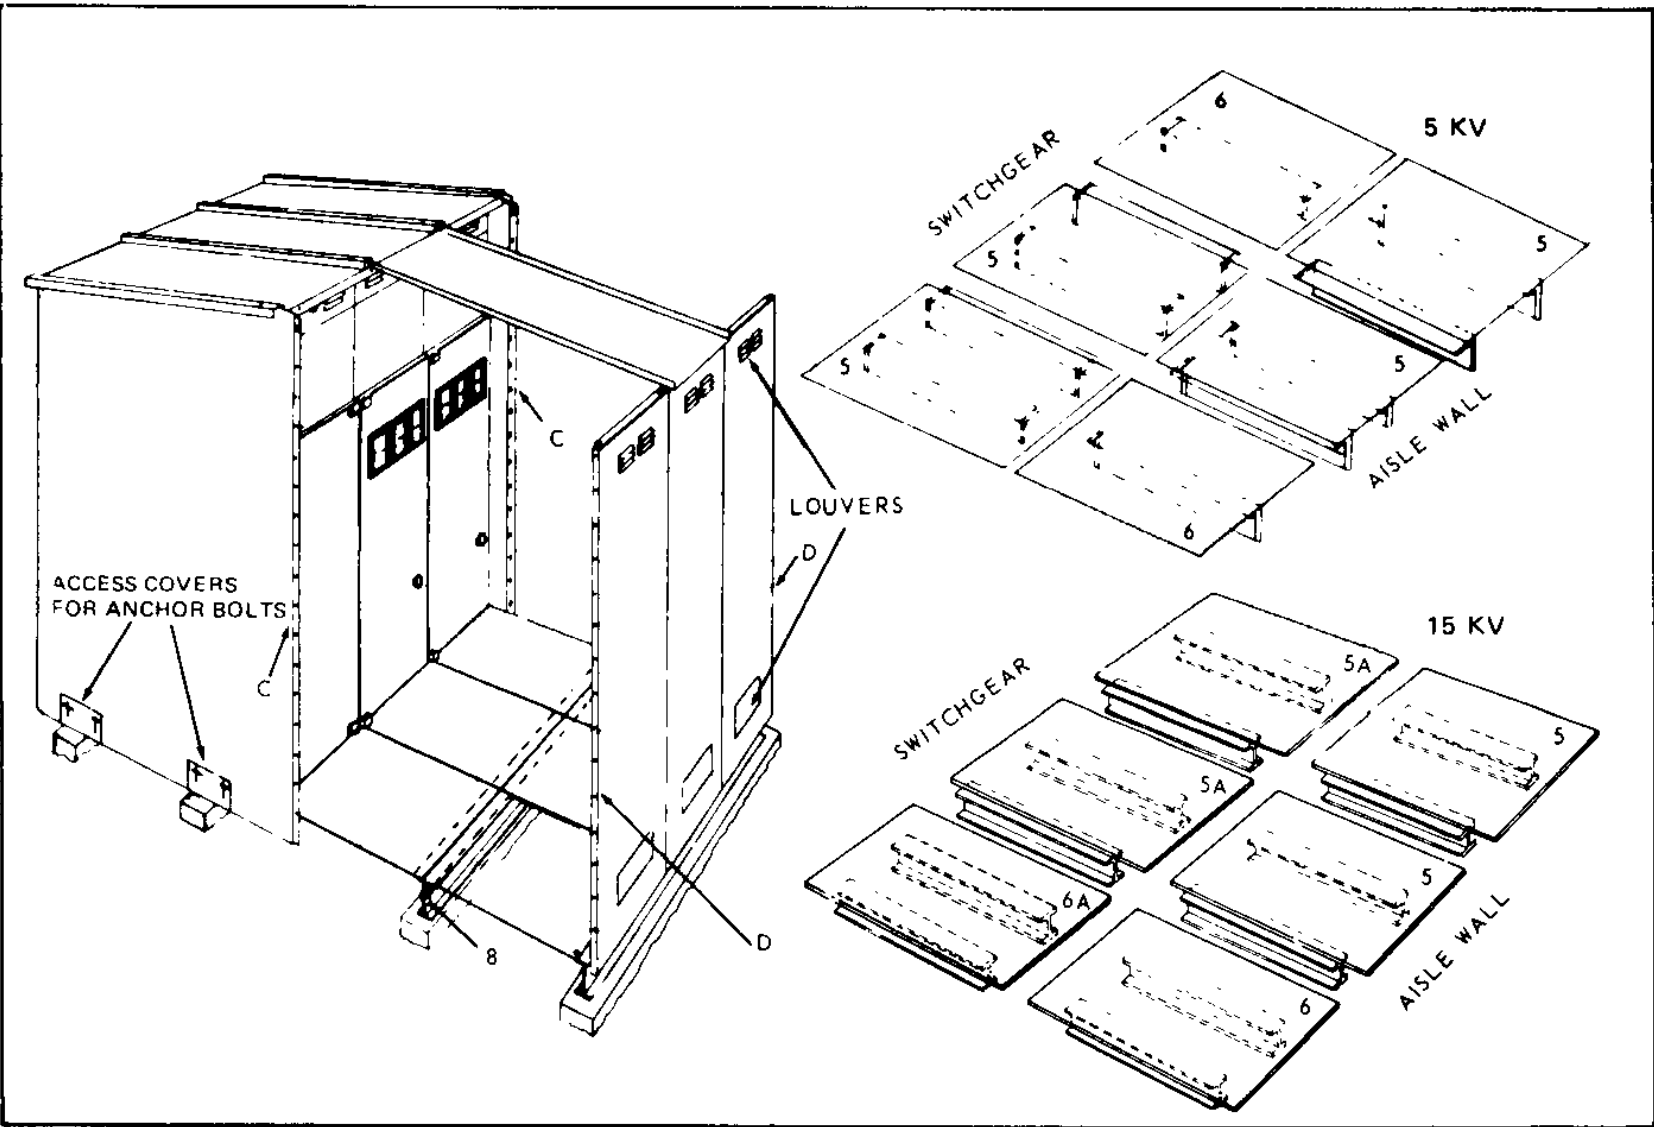

Figure 26. Floor Plate Installation – Single Aisle Layout
3. Align the ends of the aisle wall, aisle beam and switchgear. Place two sets of floor plates in position between the switchgear and the wall. Install each set next to the end position between the switchgear and the wall. (See Figure 26 for location of floor plates.) With floor plates set tightly against switchgear floor plates, check and adjust center beam and aisle wall beam location to provide a good fit with minimum size cracks between plates and a smooth surface. Check that aisle wall is square with switchgear by diagonal measurements at floor level – corner to corner distances should be equal. Tighten anchor bolts to secure beam locations.
5. Install all floor plates using 5 kv or 15 kv pattern as shown in Figure 26. Each plate overlaps the supporting member of the next plate; therefore, determine sequence of installation accordingly. Place each set of floor plates to equalize the space between floor plates and prevent a wide crack at end of group.